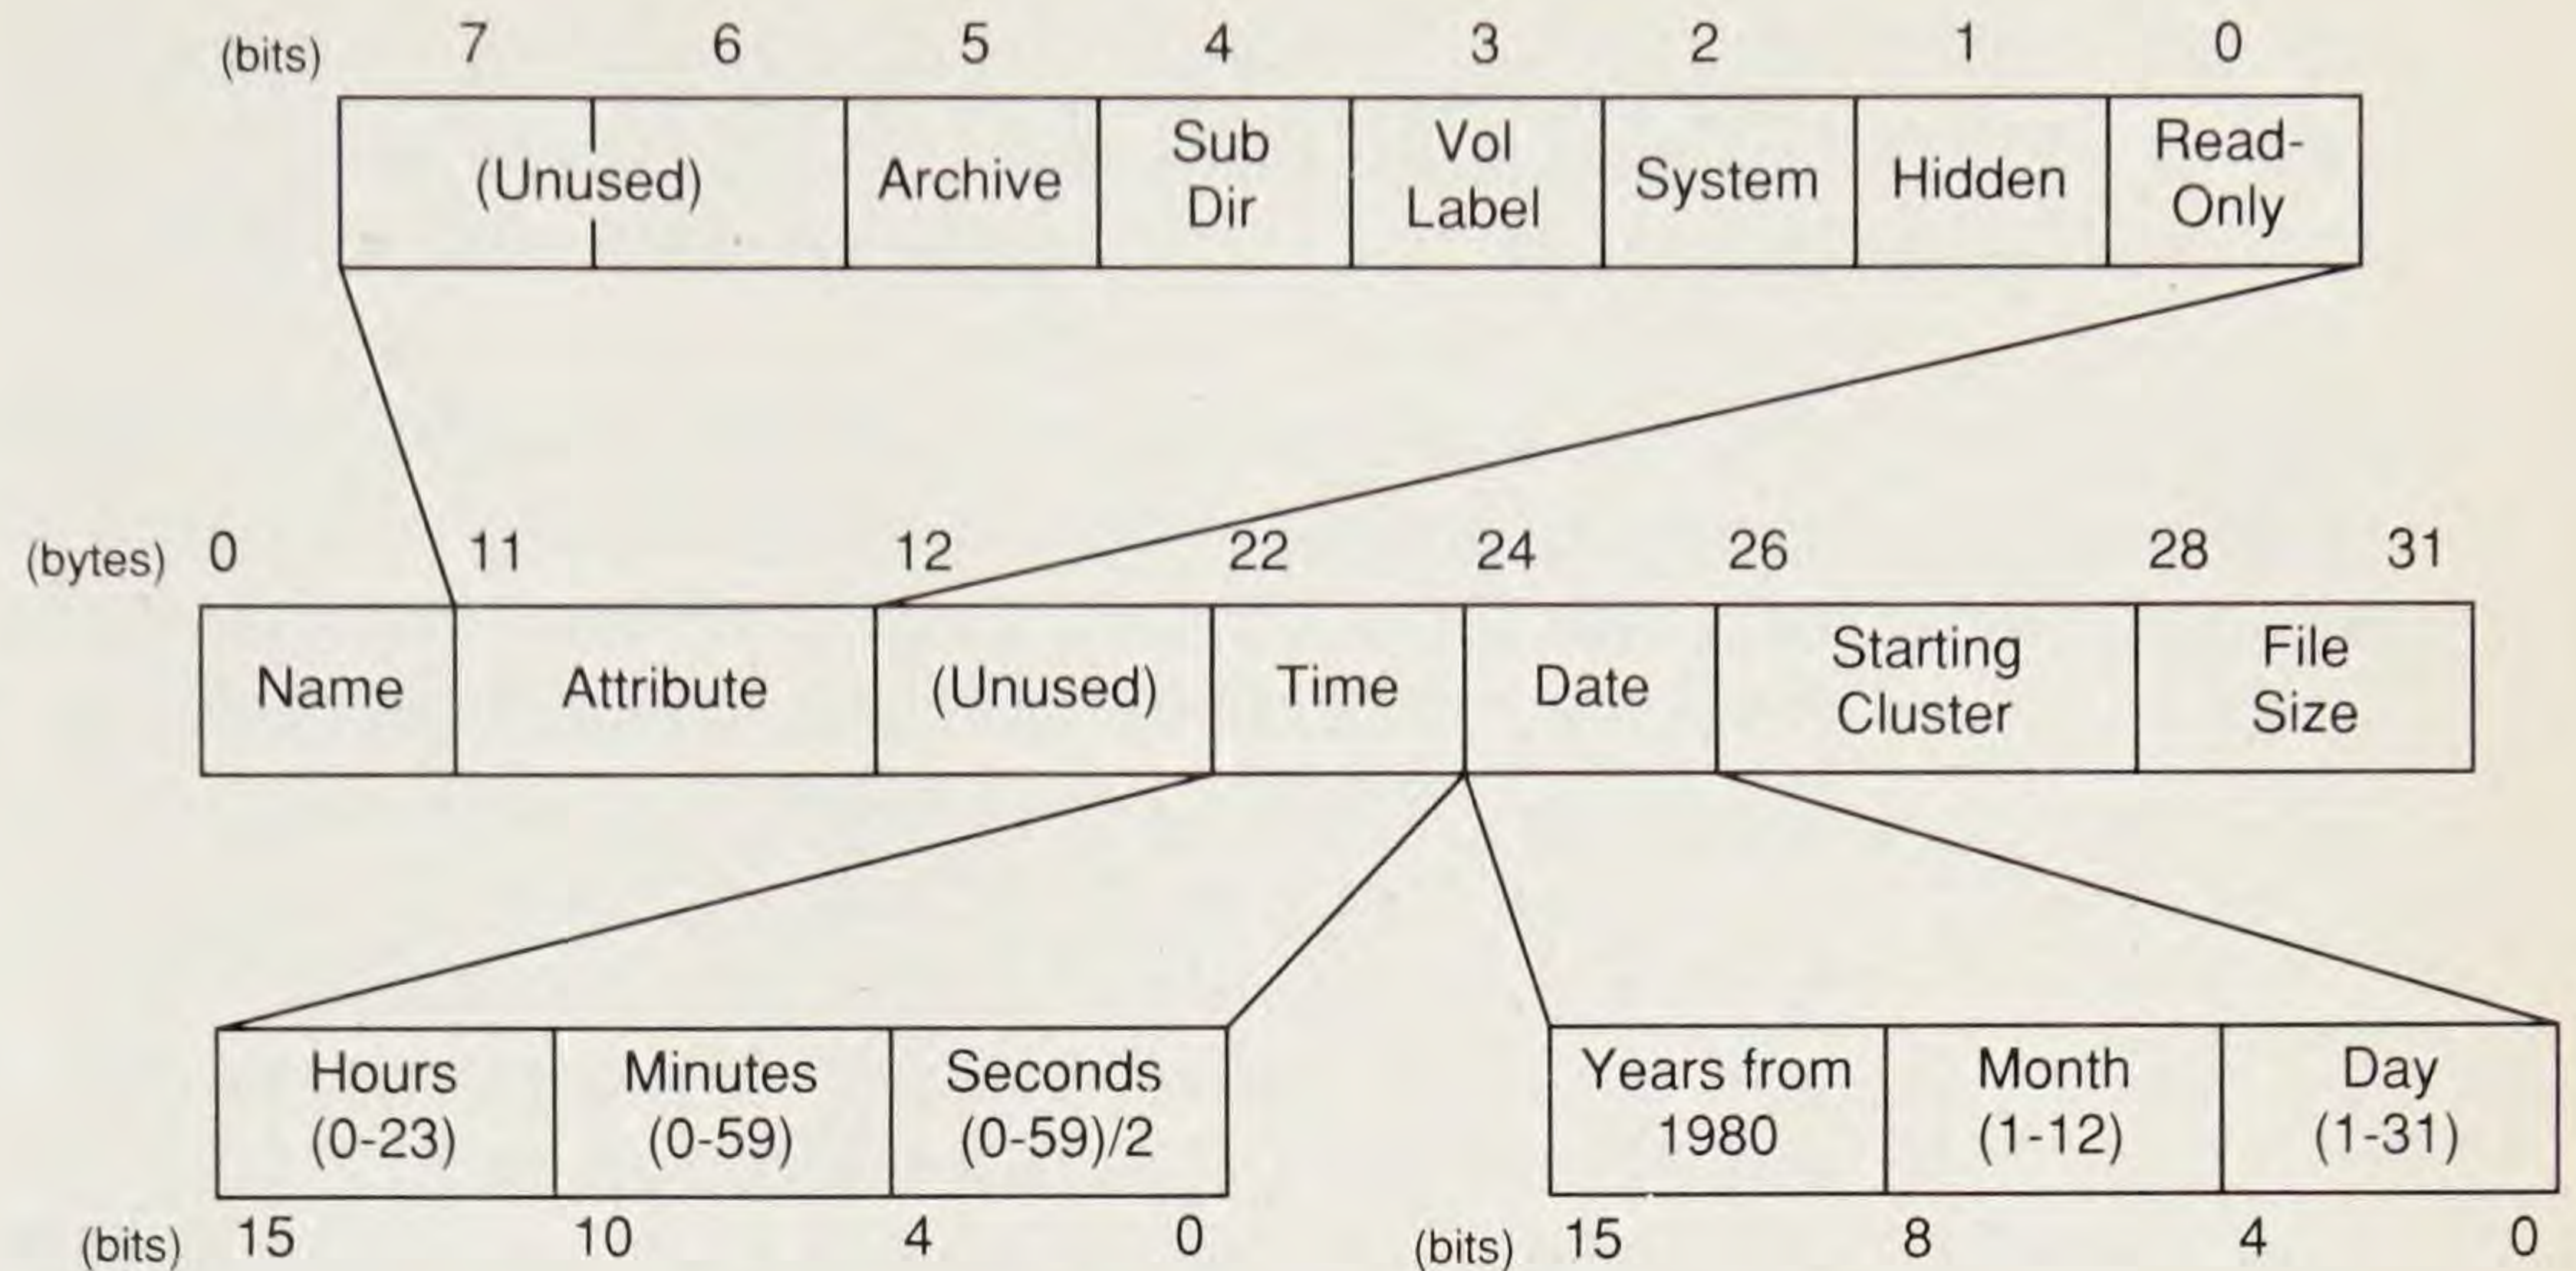

Figure 9-2 Directory entry format.
The `Action` subroutine (lines 106–128) displays one file name from the DTA filled in by `DirEngine`. Figure 9-2 illustrates the format of the directory fields in this 43-byte variable. Here, the program needs only the one field at offset 30 decimal, locating the first byte of an ASCIIZ string containing the entry's file name. Displaying this string requires setting `di` to the offset address inside the `dirData` DTA variable, calculated by adding the known offset to the file name (30) plus the offset address of `dirData`: